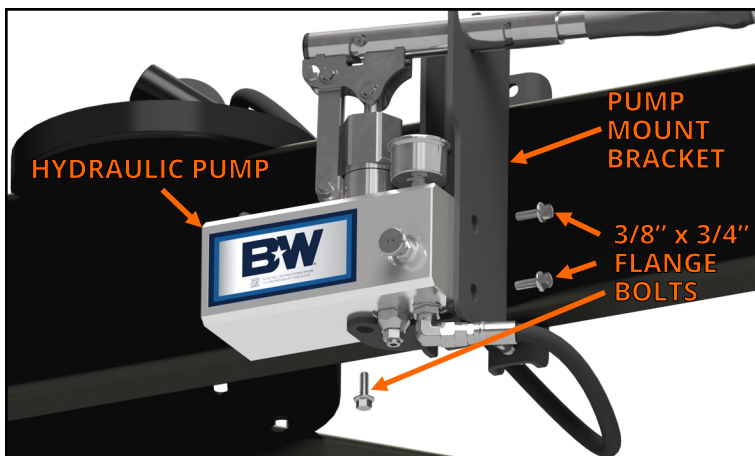

FIGURE C8: View looking at the driver side frame rail.
4. **Mount the hydraulic pump.** Retrieve the hydraulic pump and cylinder. Carefully lay the hydraulic cylinder below the A-frame temporarily. Retrieve the three 3/8" x 3/4" flange bolts. Attach the hydraulic pump to the pump mount bracket using the bolts, **as shown in Figure C8**. Torque the 3/8" bolts to 40 ft.-lbs.